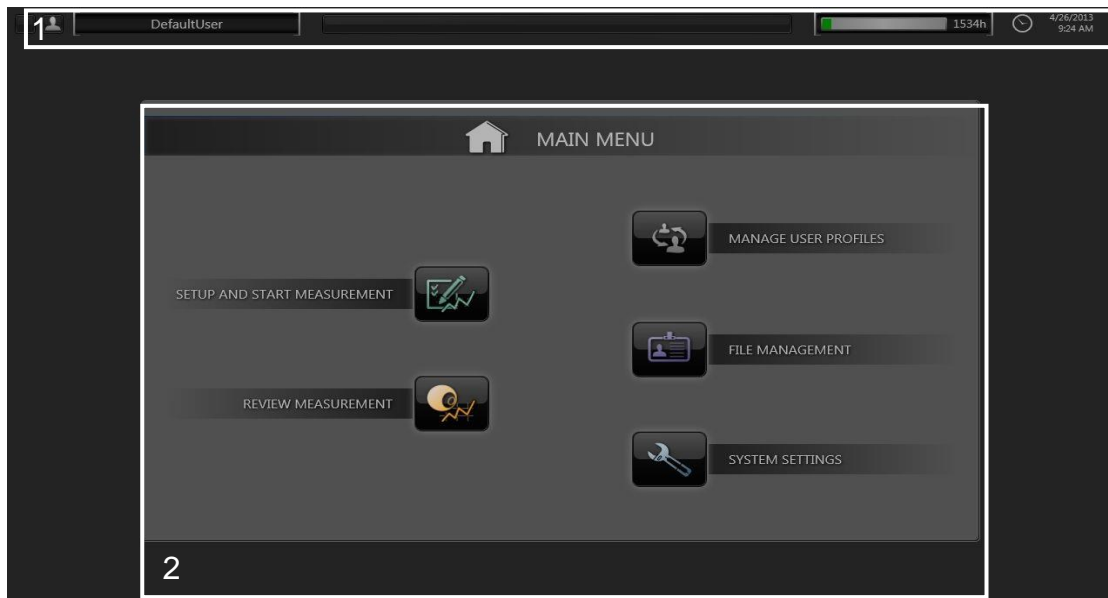

Figure A1-1: General screen description
All screens of the graphical user interface consist of a STATUS BAR (1) on top of the screen and a CONTENTS BOX (2) in the middle (see Figure A1-1).
Inside the CONTENTS BOX the different screens are displayed. Based on its contents the CONTENTS BOX can vary in size. In Figure A1-1 the CONTENTS BOX is shown with the MAIN MENU loaded.